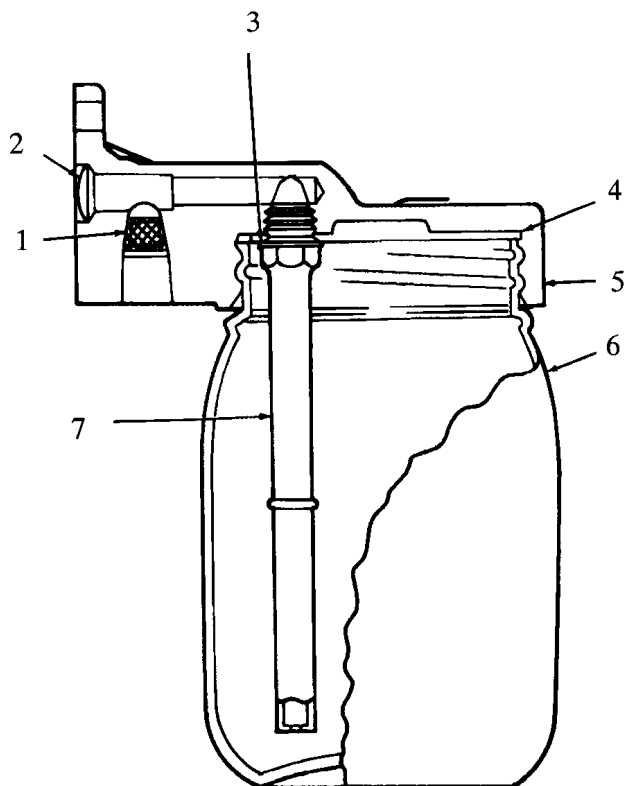

Figure 89 Bendix AE-1 Alcohol Evaporator
The alcohol evaporator (Figure 89) is designed to permit vaporized alcohol to be drawn into the air brake system to prevent possible freezing of any moisture in the air brake system.
1. Carefully disassemble, noting order of removed parts. Refer to Figure 89 .
Assemble parts, making sure new gaskets and rubber parts are properly installed. Refer to Figure 89 .